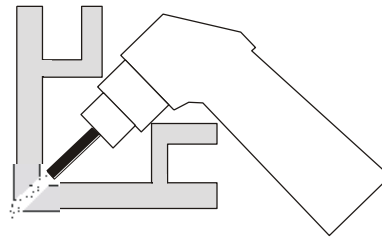

Fig. 6
7. In case of cutting in the corner or around the corner (see Figure 6), use the long electrode and cutting tip. The cutting power while using the Long cutting tip is decreased.